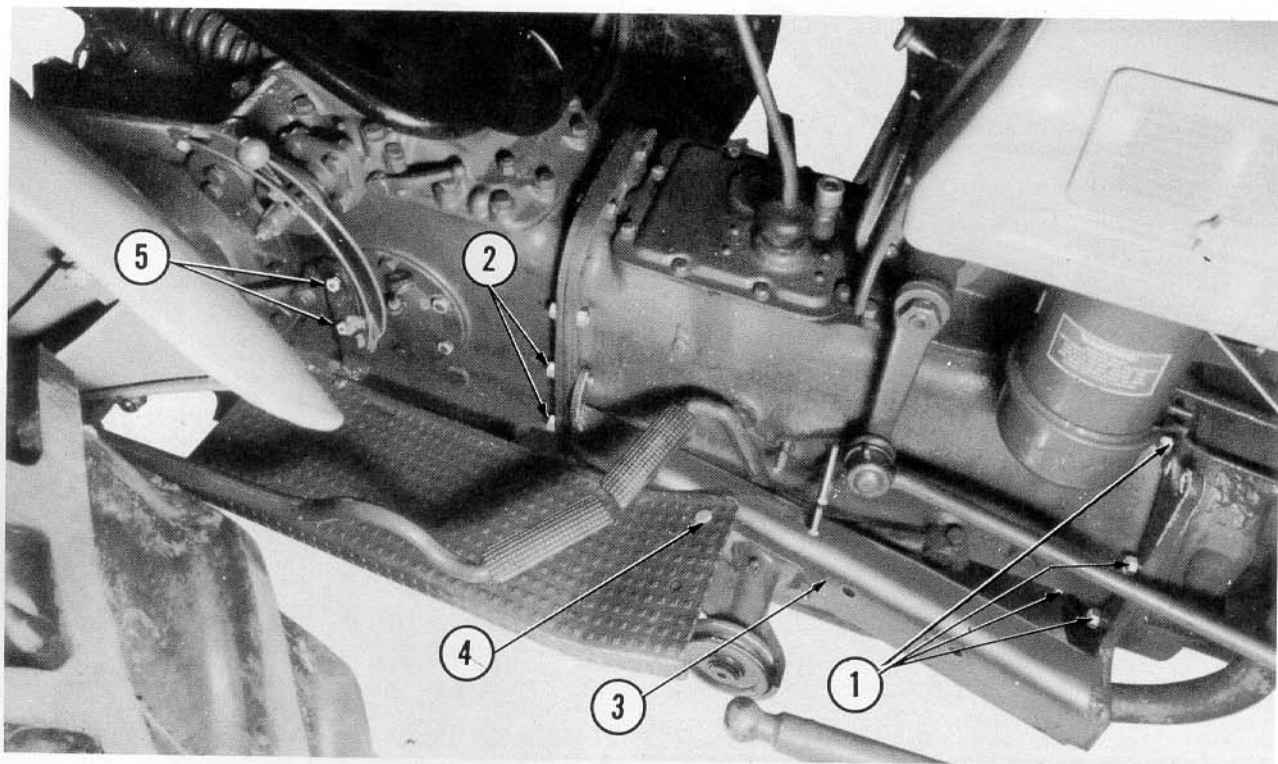

Figure 6
- a. Remove four bolts (1), Figure 6, from forward end of transmission housing.
- b. Remove two lower bolts (2) from rear of transmission housing.
- c. Position right hand mounting frame (3) and secure forward end with four stud bolts (1) provided. Secure clip for carburetor spring with top bolt.
- d. Secure rear end of mounting frame with two stud bolts (2), and washers provided with frame. Lock washers go under heads of stud bolts. Use flat washers provided, to fill space between frame and transmission housing, as in Step 4-d. Tighten stud bolts securely.
10. Attach forward end of right hand running board to mounting frame with one bolt (4), Figure 6, and secure with lock washer and nut. Attach running board rear bracket over brake pawl with two bolts (5), provided in bag of small parts.